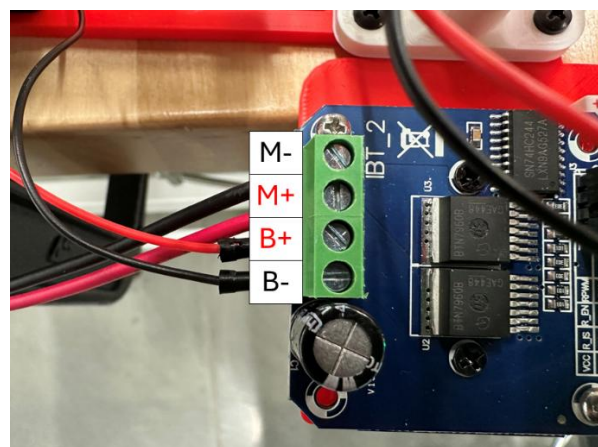

Figure 12: Motor drive wire block with pinout.
12. Connect the motor wires to the motor driver. If the motor driver is oriented with the green wire block on the left, the top most wire is the motor negative. The second from the top is motor positive. Refer to Figure 12 in Section 4.1.6 for connection configuration.
Each wheel was designed to hold 8 magnets. Since each wheel only holds 4 magnets in this setup, the wheels can be easily aligned by lining up the empty space of one wheel with a magnet horizontally. This is shown in Figure 12.
Additionally, the motor's wires must be connected to the right blocks on the motor driver. Figure 12 shows the motor driver with its wire blocks labeled.